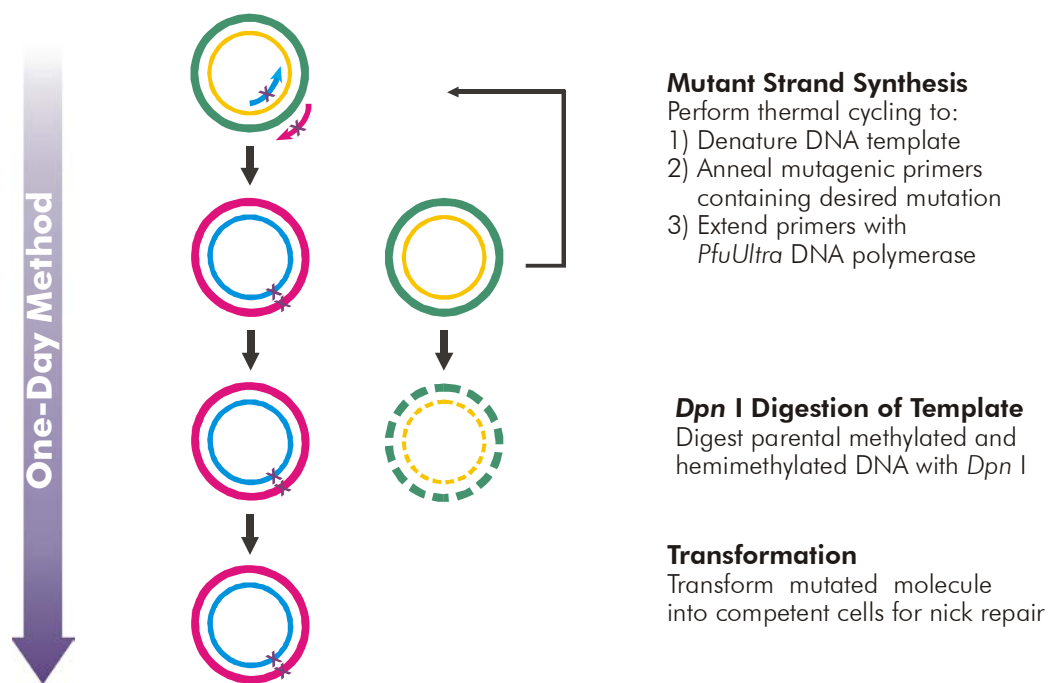

FIGURE 1 Overview of the QuikChange II XL site-directed mutagenesis method.
In vitro site-directed mutagenesis is an invaluable technique for characterizing the dynamic, complex relationships between protein structure and function, for studying gene expression elements, and for carrying out vector modification. Several approaches to this technique have been published, but these methods generally require single-stranded DNA (ssDNA) as the template¹⁻⁴ and are labor intensive or technically difficult. Our QuikChange II XL Site-Directed Mutagenesis Kit* is specifically optimized for large, difficult constructs and allows site-specific mutation in virtually any double-stranded plasmid. The kit eliminates the need for subcloning and for ssDNA rescue.⁵ In addition, the QuikChange II XL site-directed mutagenesis kit does not require specialized vectors, unique restriction sites, multiple transformations or in vitro methylation treatment steps. The rapid three-step procedure generates mutants with greater than 80% efficiency (see Figure 1). The protocol is simple and uses either miniprep plasmid DNA or cesium-chloride-purified DNA.
The QuikChange II XL kit is used to make point mutations, replace amino acids, and delete or insert single or multiple adjacent amino acids. The QuikChange II XL site-directed mutagenesis method is performed using *PfuUltra* high-fidelity (HF) DNA polymerase** for mutagenic primer-directed replication of both plasmid strands with the highest fidelity.¹¹ The basic procedure utilizes a supercoiled double-stranded DNA (dsDNA) vector with an insert of interest and two synthetic oligonucleotide primers, both containing the desired mutation (see Figure 1). The oligonucleotide primers, each complementary to opposite strands of the vector, are extended during temperature cycling by *PfuUltra* HF DNA polymerase, without primer displacement. Extension of the oligonucleotide primers generates a mutated plasmid containing staggered nicks. Following temperature cycling, the product is treated with *Dpn* I. The *Dpn* I endonuclease (target sequence: 5'-Gm⁶ATC-3') is specific for methylated and hemimethylated DNA and is used to digest the parental DNA template and to select for mutation-containing synthesized DNA.⁶ DNA isolated from almost all *E. coli* strains is dam methylated and therefore susceptible to *Dpn* I digestion. The nicked vector DNA incorporating the desired mutations is then transformed into XL10-Gold*** ultracompetent cells.